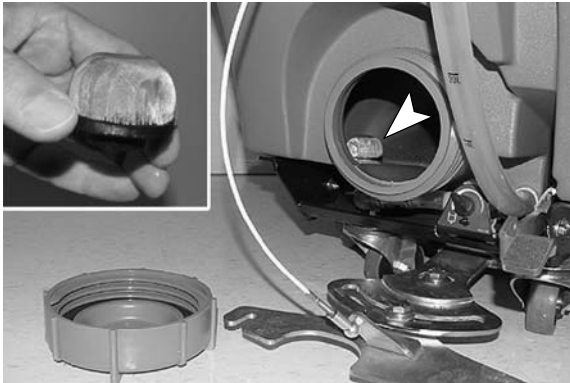

FIG. 39
- Remove and clean the solution tank filter (Figure 39). Turn the filter counter-clockwise to remove.